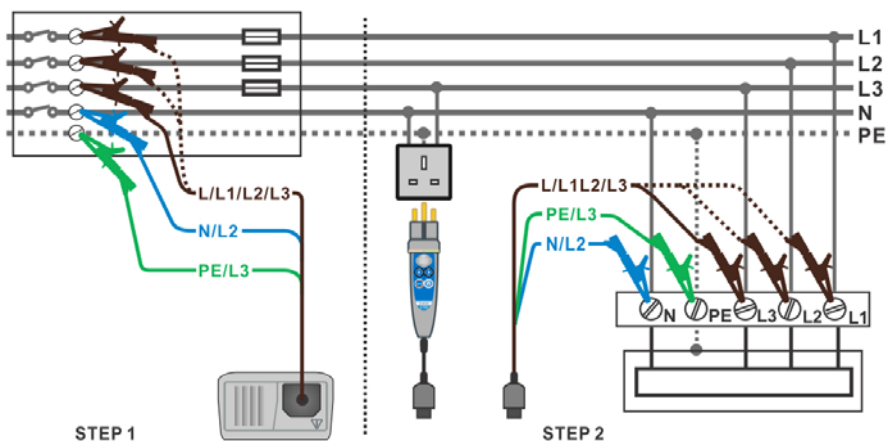

Figure 5.35: Phase-neutral or phase-phase voltage drop measurement – connection of plug cable or commander and 3-wire test lead
- **Connect** the test leads to the origin of electrical installation (see figure 5.35).
- **Connect** the test leads to the tested points (see figure 5.35).